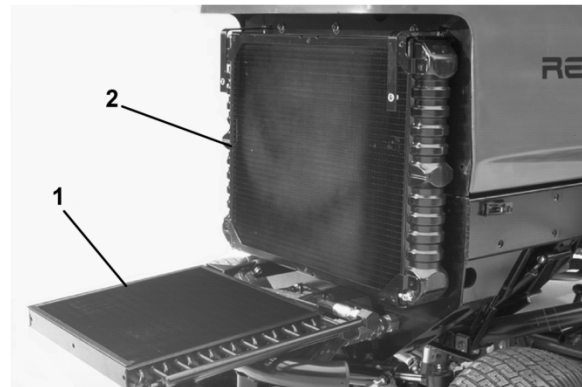

Figure 61
3. Unscrew knobs and pivot oil cooler rearward (Figure 61). Clean both sides of oil cooler and radiator area thoroughly with compressed air. Do not use water. Open hood and blow debris out toward back of machine. Pivot oil cooler back into position and tighten knobs.